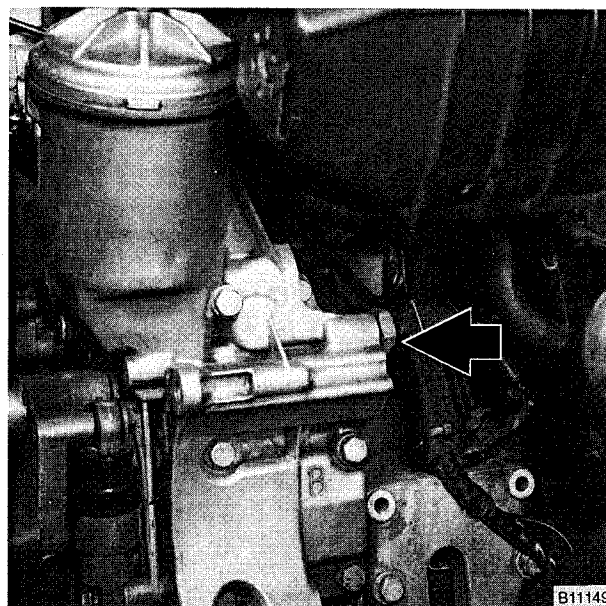

Fig. 1. Oil pressure switch location on M50 engine (arrow).
1. Disconnect harness connector from oil pressure switch and remove switch. See Fig. 1.